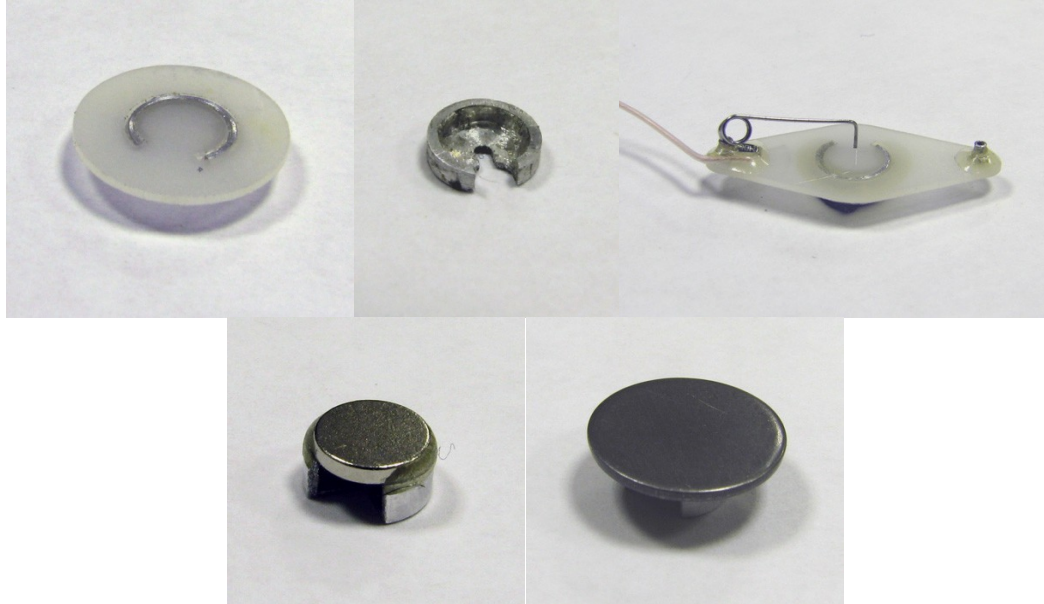

Figure 3.2.1 Sample holders: 1 - basic holder, 2 - holder with an electrical contact, 3 and 4 - magnetic holder, 5 - holder for fast scanning.
Before loading the sample into the microscope, you should fix it on the sample holder. There are a few types of sample holders provided with the microscope (**fig. 3.2.1**): (1) holders with polycor substrate on top, (2) round metal holders 4 mm in diameter, holder with the electrical contact (3), magnetic holder with a set of metal discs (4 and 5). A slit in the bottom part of the sample holder is used for mounting it on the scanner.